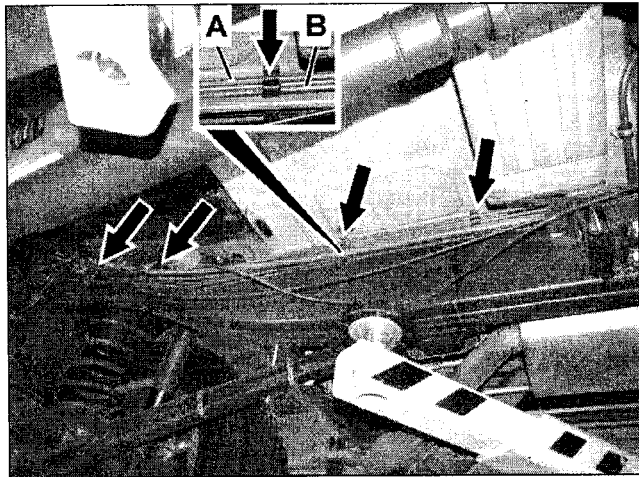

Figure 3 (not all retaining clips are shown)
4. Unclip fuel feed line (A, Figure 3) then unclip return line (B) from retaining clips (arrows) on frame.